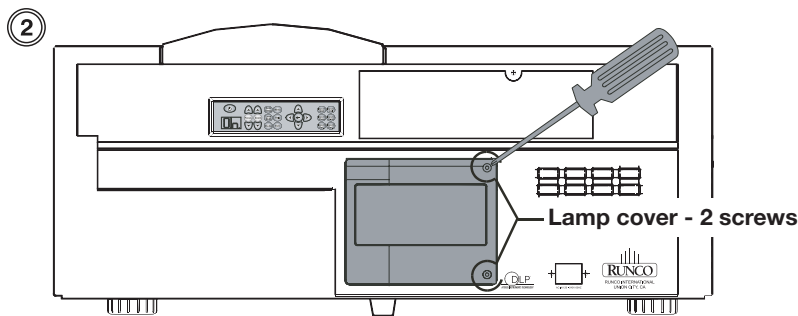

Figure 5-1. Removing the Lamp Door
2. Loosen the two rear Lamp Cover screws (see Figure 5-1) and remove the cover.